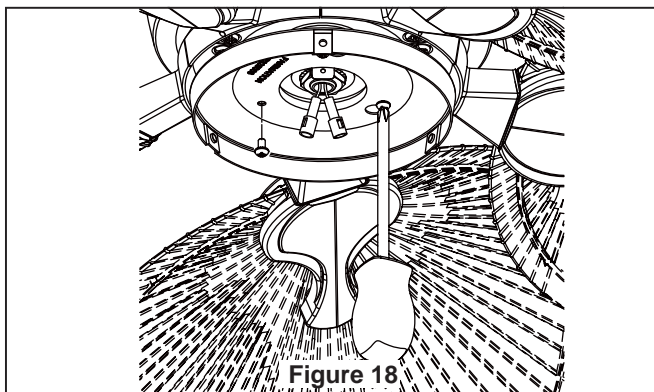

Figure 18
- ☐ 4. Remove one of the three screws in the support bracket at the bottom of the motor assembly. Slightly loosen the remaining two screws. Assemble the light plate assembly to the support bracket using the two key slots in the socket plate. Replace the third screw and securely tighten all three screws (Figure 18).